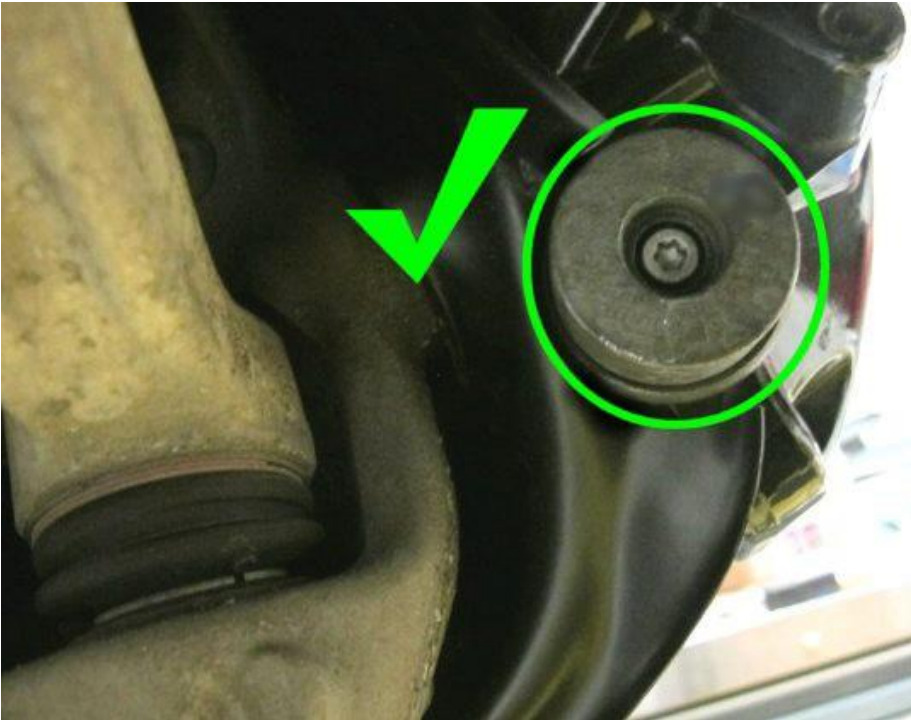

Figure 2
- Referring to Figure 2, once fitted check and confirm the disc guard plates are not touching the brake calliper Dynamic absorber